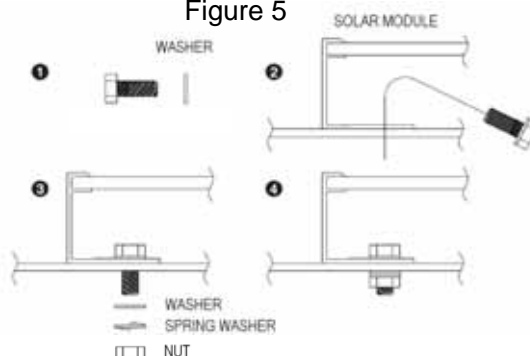

Figure 6
Mounting Using Frame Bolt Holes (Figures 6, 7 & 8)
The modules may be fastened to a support using the bolt holes in the bottom of the frame at location "C", as shown in Figure 9 and 10 (back view of the module) and Figure 6 (mounting detail). The module should be fastened with four (4) M8 (5/16") bolts. Recommended torque value is 12.5Nm. For your reference, please use the washer specified as below for the minimum requirement: